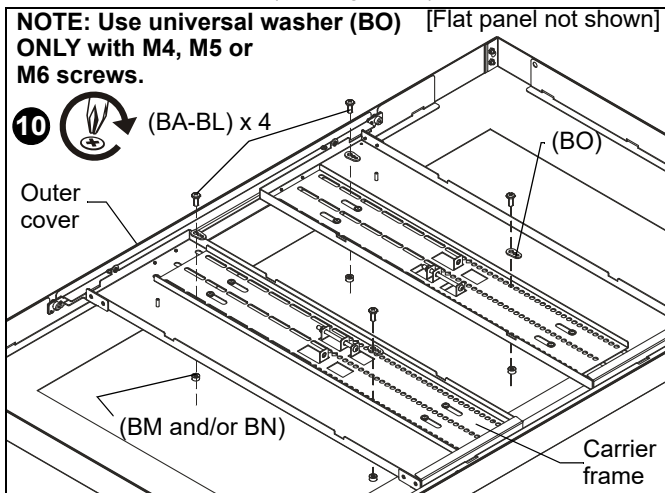

Figure 11
**IMPORTANT ! :** The M8 screws do **NOT** require a washer. Use the universal washer (BO) **ONLY** with the M4, M5 or M6 screws.
9. Place carrier frame onto back of flat panel and match the VESA pattern on flat panel to the carrier frame mounting slots. Also match the threaded studs in outer frame to the hooks on the carrier frame. (See Figure 11)
10. Use selected screws (BA-BL), washers (BO--if required), and spacers (BM, BN--if required), to connect carrier frame to back of flat panel. (See Figure 11)